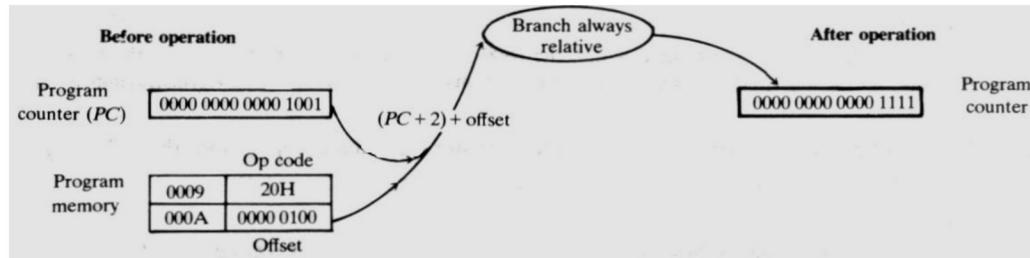

Figure 3.4 - Relative Addressing (branching forward)
Figure 3.4 shows the address calculation in the execution of the unconditional branch instruction (BRA). Program counter (PC) before the operation is 0009_H . The opcode of the "branch always" instruction ($20H$) is fetched from location 0009_H in program memory with the offset $04H$ (00000100_2). Then the program counter is incremented to the address of the next instruction ($000BH$) just before the actual operand fetch. The 6802 processor internally adds the offset ($04H$) to the current contents of program counter ($000BH$). The new address in the program counter after the "branch always" operation is $000B+04=000F_H$ ($0000\ 0000\ 0000\ 1111_2$). The processor then jumps to this new address and fetches an instruction from location $000FH$. Note that the offset's most significant bit (MSB) is 0. This indicates a positive offset, which causes a forward branch.